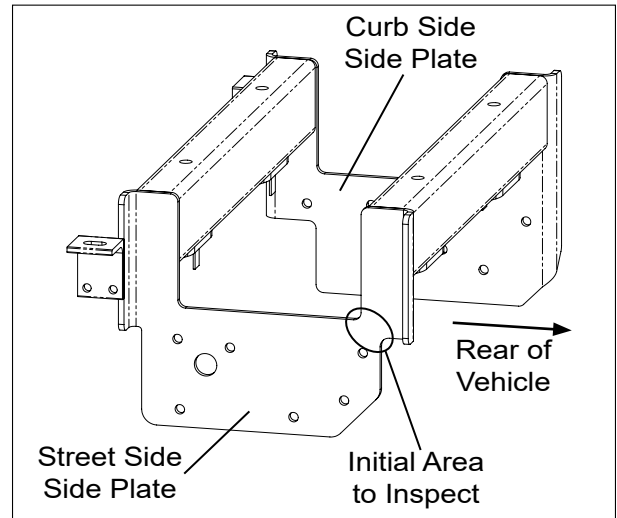

Figure 1 – Mounting Frame Initial Inspection
2. Find the mounting frame under the vehicle (refer to Figure 1). The initial area to inspect is the narrow section at the rear portion of the side plate on the street side of the mounting frame. Use a wire brush to remove any paint and rust from this area.